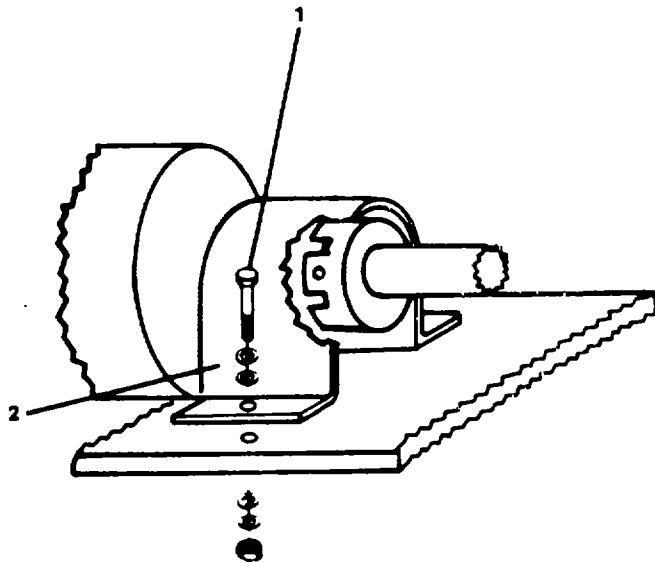
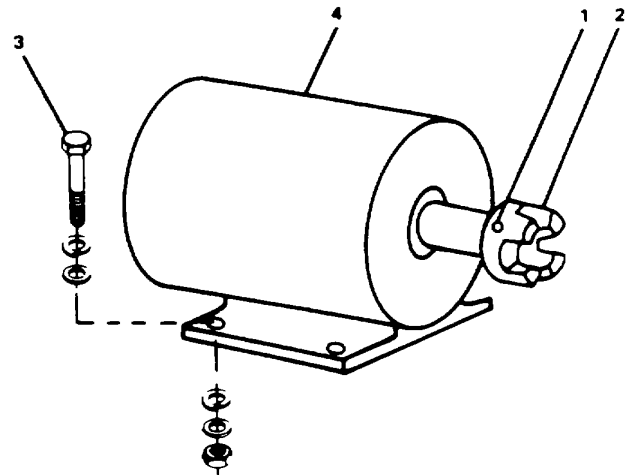

Figure 2-130. Coupling Guard.
Figure 2-131. Electric Motor.
c. Remove two bolts (1, Figure 2-130) and associated hardware.
d. Remove coupling guard (2).
e. Loosen motor coupling flange setscrew (1, Figure 2-131).
- f. Slide motor coupling flange (2) towards motor (4).
- g. Remove four bolts (3) and associated hardware.
- a. Slide motor coupling flange (2, Figure 2-131) on motor shaft with flat end towards motor (4) housing.
- b. Position motor (4) on pump foundation with mounting holes aligned.
- c. Install four bolts (3) and associated hardware. Do not tighten.
- e. Tighten motor coupling flange setscrew (1).
- f. Tighten four bolts (3).
- g. Install coupling guard (2, Figure 2-130) with two bolts (1) and associated hardware. Tighten bolts.
- i. Install electrical junction box cover (2) with screws (1). Tighten screws.